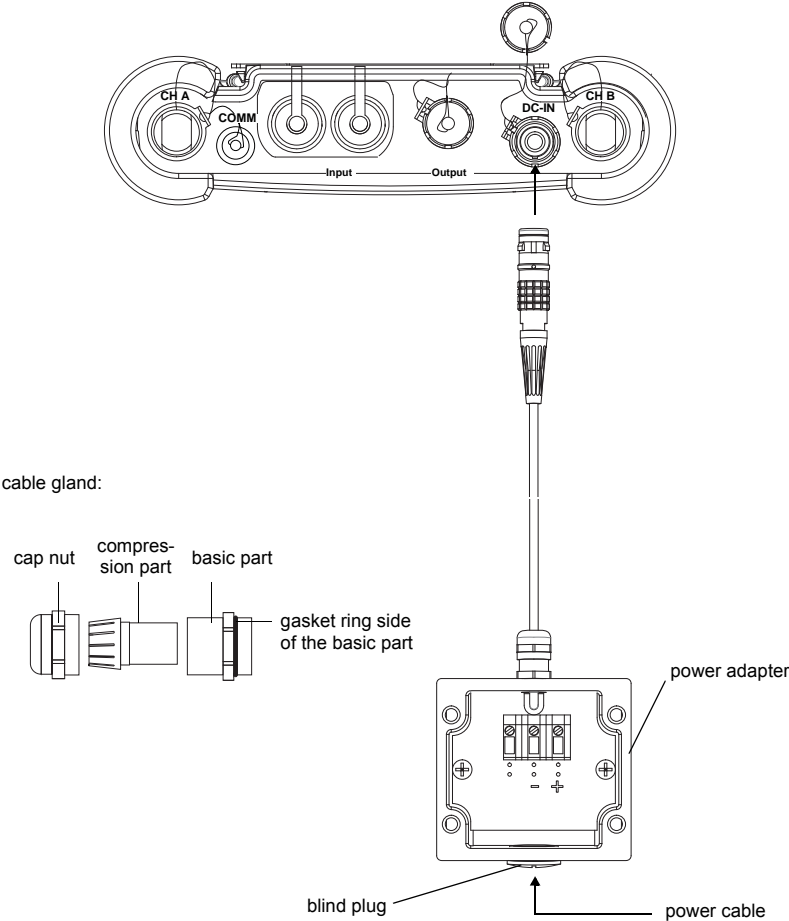

Fig. 7.9: Connection of the power adapter to the transmitter FLUXUS F608
- Remove the blind plug (see Fig. 7.9).
- Push the cable through the cap nut, the compression part and the basic part of the cable gland (see Fig. 7.9).
- Connect the cable to the terminals of the power adapter (see Fig. 7.9 and Tab. 7.1).
- Connect the connector of the power adapter to the socket of the transmitter (see Fig. 7.9).